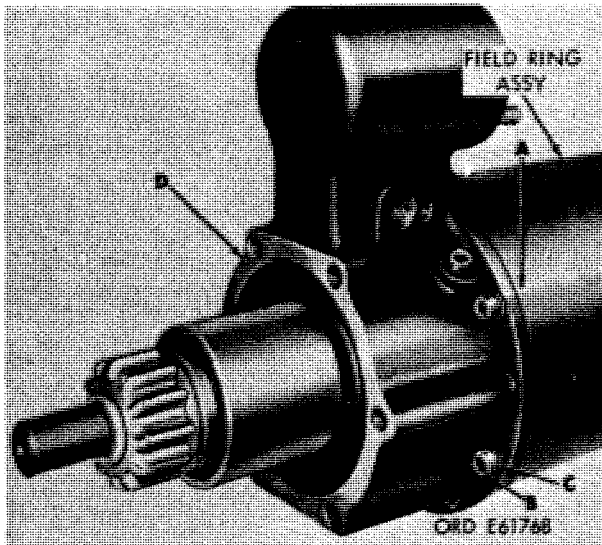
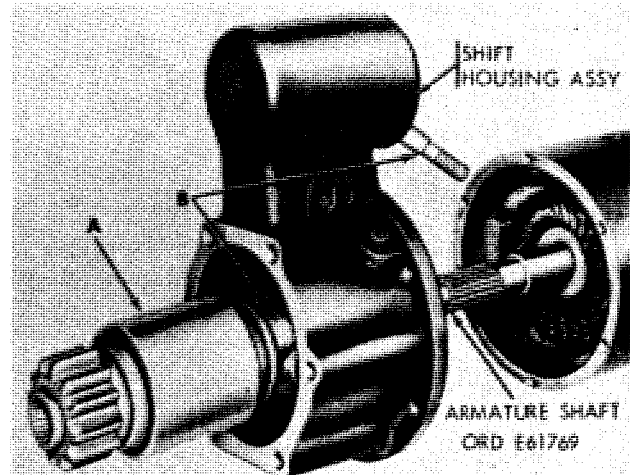

Figure 3-10. Removing or installing shaft housing assembly attaching parts.
Figure 3-11. Removing or installing drive and lever assemblies.
c. Scribe an alinement (A, fig. 3-10) on shaft housing assembly (D) and field ring. Remove six hex-socket head screws (B) and lockwashers (C). Slide shift housing assembly (D) forward to position shown in figure 3-11.
d. Slide drive assembly (A, fig. 3-11) out of shift housing assembly and guide shaft and lever assembly (B) down and out of housing at the same time.